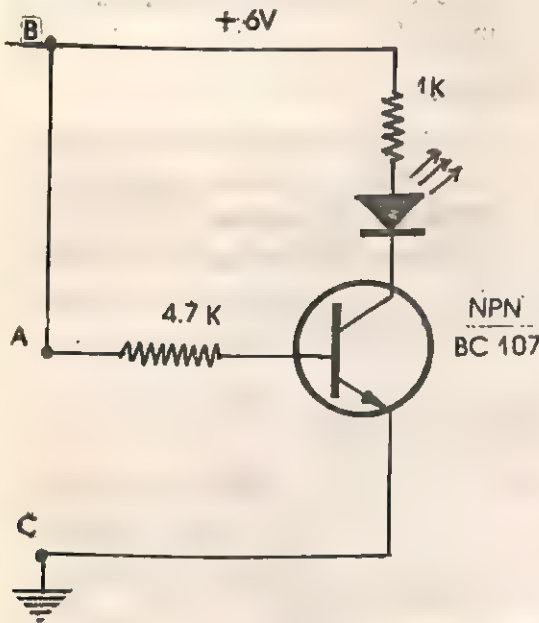

Fig. 9.2
1. Connect the circuit as in the Fig. 9.2.